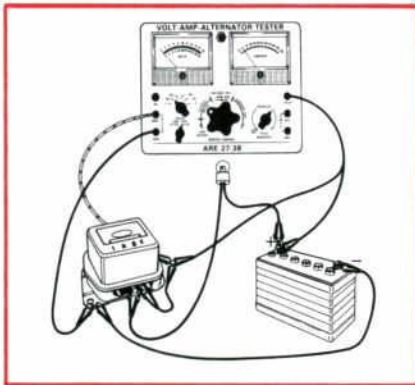

Figure 18—Making a Field Relay Test on a Charging System Equipped with an Electro-Mechanical Regulator.
1. To make this test, hook up the equipment as shown in Figure 18 or as the equipment manufacturer calls for.